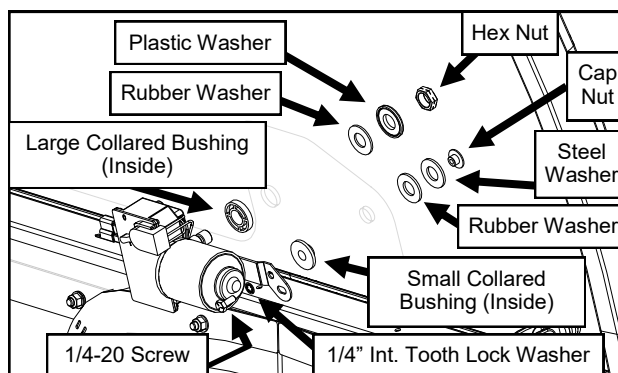

Fig. 13.1 (Windshield Wiper Motor)
- 13.1** Mount the wiper motor to the windshield. See Figure 13.1. Make sure the wires are above the wiper motor shaft to prevent pinching the wires when the windshield is opened and closed, then connect to the wire harness.